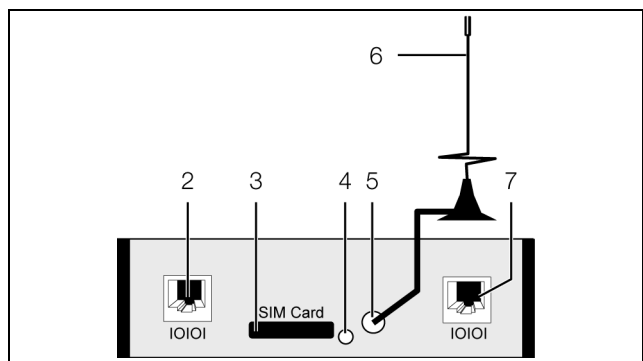

Fig. 9: Rear of the LTE unit
- 2 Connection of the CMC III Processing Unit RJ 12/ RS 232, 24 V $\overline{\text{---}}$, 500 mA (alternative to item 7)
- 7 Connection of the CMC III Processing Unit RJ 12/ RS 232, 24 V $\overline{\text{---}}$, 500 mA (alternative to item 2)
- Press the button to eject the SIM card (fig. 9, item 4). The SIM card holder will be ejected from the chassis (fig. 9, item 3).
- Screw the aerial into the relevant connection at the rear of the LTE unit (fig. 9, item 5).
- Connect the LTE unit to the CMC III Processing Unit using an RJ 12 connection cable (fig. 9, item 2 or item 7).